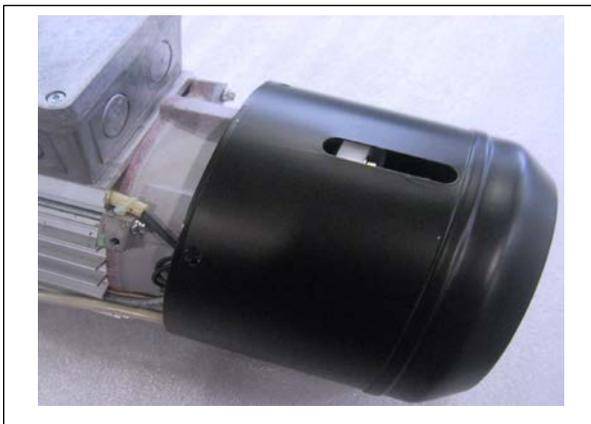

**Figure 86**
2. Unscrew the brake lever from the motor. (See Figure 86.)